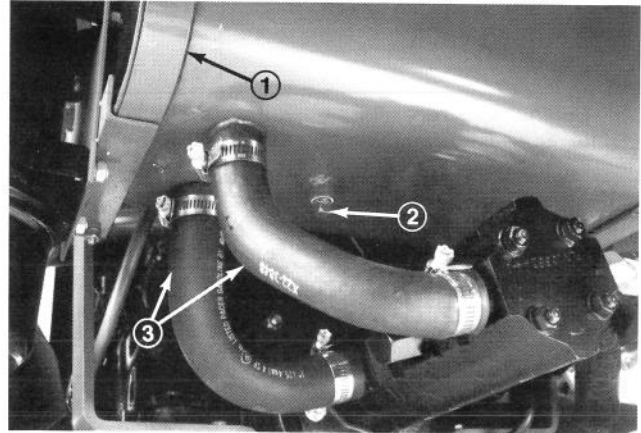

Figure 45
**GENERAL MAINTENANCE:** Before installing a new or rebuilt pump, valve, or hydraulic motor, charge it with Mobil DTE26 hydraulic fluid. Replace any felt strips under the reservoir straps which become damaged or out of place (Fig. 45).
**FLEXIBLE HYDRAULIC LINES:** There are twenty-eight (28) flexible hydraulic lines on the Greensmaster
## DRAINING RESERVOIR (Fig. 45)
**Note:** Due to location of the drain plug, special precautions should be taken to avoid spilling fluid onto the pump suction lines (Fig. 45).